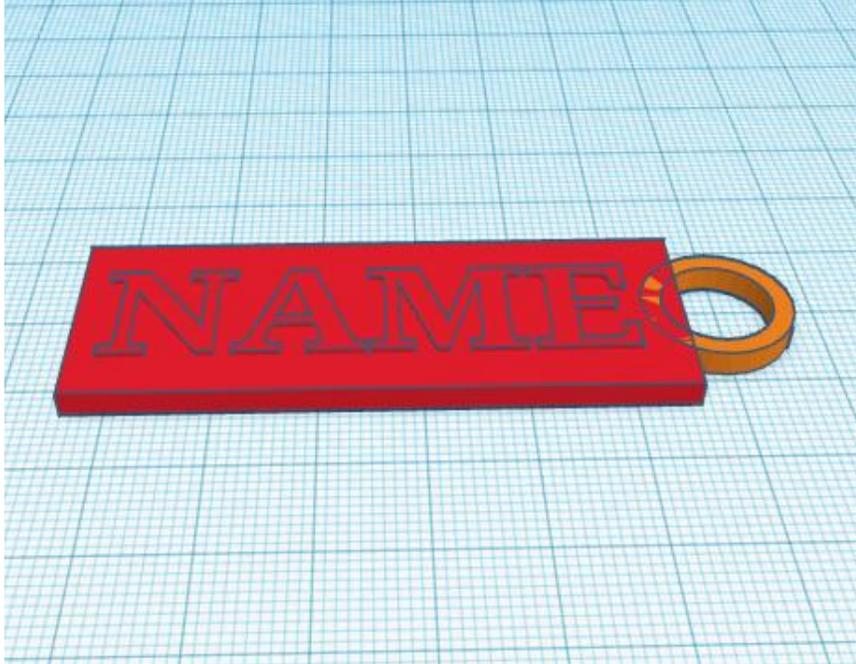

Fig.2.21 Blending the tube to the box to some extent
10. Drag your tube and place it so the bottom  $\frac{1}{4}$  (or so) is inside your box. (Refer fig. 2.21)